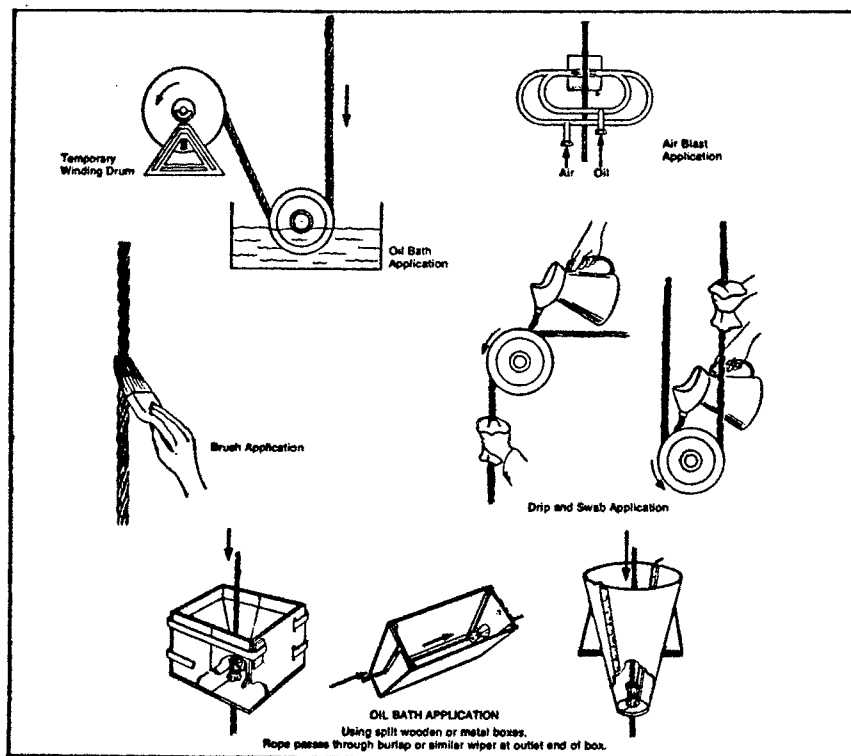

Fig. 2-10 Methods of lubricating wire rope
4. Care of Wire Rope. Wire rope must be properly lubricated to insure long life and safety. The internal parts of the wire move whenever the rope passes over a sheave or winds on a drum. Each wire rotates around its axis, and all wires minutely slide by each other. Internal wear can be minimized only by lubrication. Chain lubricant, Military specification MIL-G-18458 (ships) type II shall be used when available. If not available, use Lubra-plate or a good grade of engine oil. It must be free from acids and corrosive substances and be thin enough to remain as a coating on the outer surfaces. Wire rope is not necessarily lubricated when the outside appears greasy. Care must be taken to insure the lubricant penetrates into the core of the rope. The preferred and recommended method of lubricating wire rope is to use a mechanical lubricating device such as a Dynalube. (See **Figure 2-10.**)